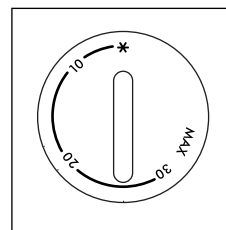

Fig.4
If maximum power has been selected, adjust the thermostat dial (fig. 4) to the desired comfort temperature from \* (5°C) and MAX (35°C).
**NOTE:** if the timer switch is at the 0 position (fig.4), the heater is off and will not operate).
Set the thermostat dial to the “\*” position (fig. 4).